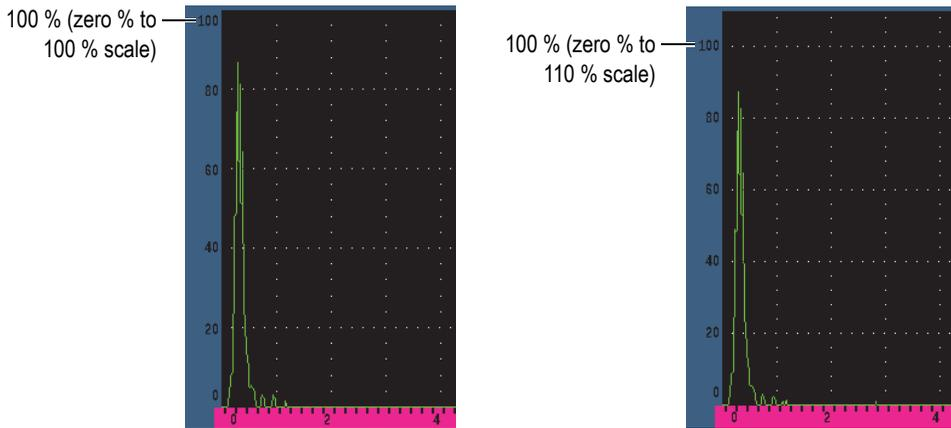

Figure 6-5 The y-axis grid modes: 100 % (left), 110 % (right)
5. Select the desired y-axis grid mode (see Figure 6-5 on page 122).